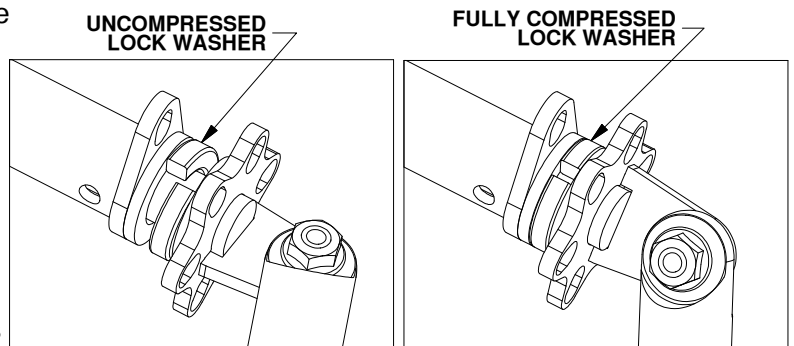

Figure A2: Clamp handle.
2. **Secure clamping bar:** After locating the optimal location for the bar, tighten the bar around the frame with the handle until the lock washer is fully compressed as shown in Figure A2, then tighten an additional 1/4 turn. This position should be noted so that the clamping bar is in the same location every time the bike is latched into the base. Always flip the handle up away from the ground before moving the bike with the clamping bar attached.